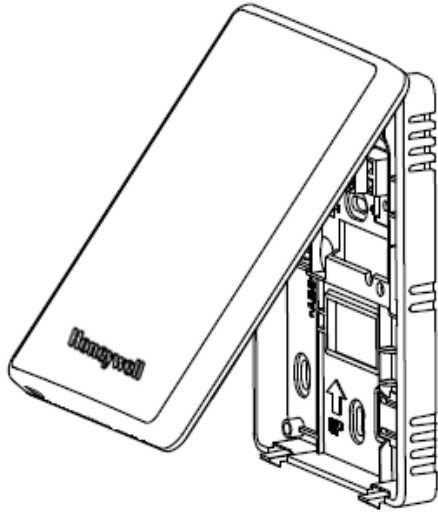

Figure 1. Removing the module from its sub-base
4. When reinstalling sensing module on sub-base, position as depicted in Figure 1. Swing down module until engaged with lower retaining tabs.